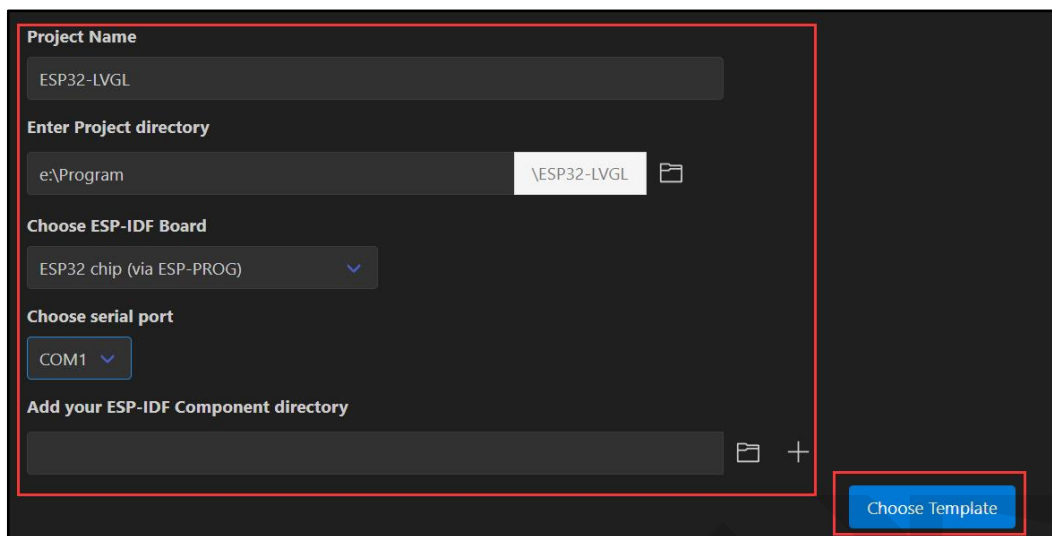

Figure 1.4 Project Configuration Example
D. After the project engineering configuration is completed, click the **"Choose Template"** button shown in Figure 1.4. In the pop-up interface, you can see many project engineering templates, which can be selected according to the actual project requirements. Choose the official basic template here. The specific operation is as follows: first, select **"ESP-IDF"** from the template category drop-down menu, then select **"sample_project"** in get started, If there is no sample_deject, select **'hello_wworld'**, and finally click the **"Create project using template sample_daject"** option, as shown in the following figure: